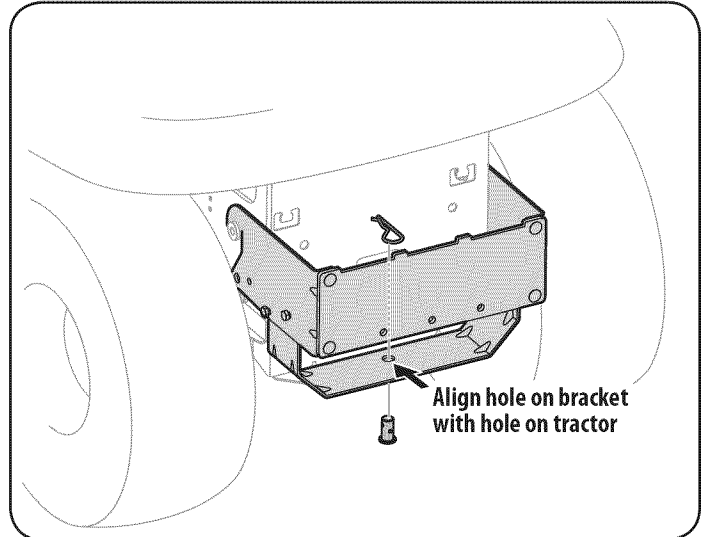

Figure 6
2. Install the clevis pin (711-0309A) from hardware pack 689-00087 into the tractor's hitch and secure with a hairpin clip (714-0117) inserted into the top hole, which is the hole located closest to the head of the clevis pin. See Fig. 6.